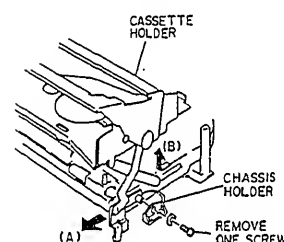

Fig. 2-54
6. Remove one (1) screw holding the cassette holder and chassis holder. (See Fig. 2-54)